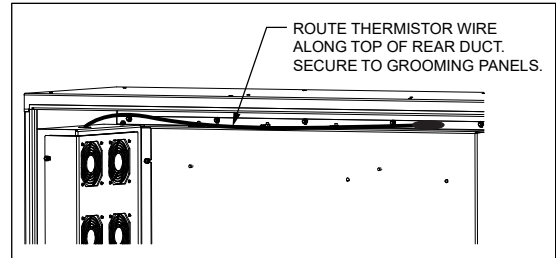

Figure 8 Thermistor Wire
8. The fan control sensor is a thermistor on the end of a wire that comes out of the hole at the top of the fan assembly. This thermistor must be placed as far as possible toward the right side rear duct to monitor thermal performance. Route the thermistor wire along the top of the rear duct, securing to the wire grooming plates using customer supplied wire ties (Figure 8).